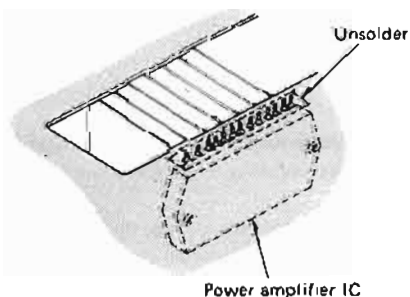

Fig. 4
2. Unsolder the power amplifier IC. (Fig. 4)